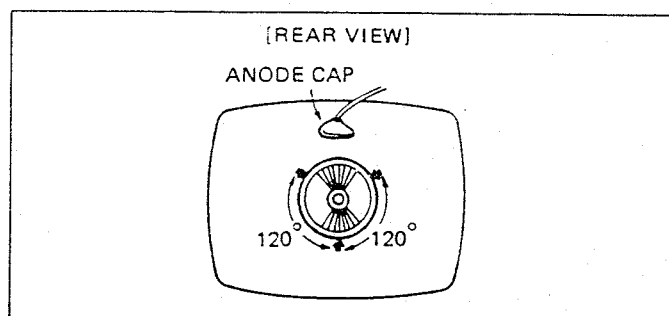

Fig. 12
9. Insert three wedges to the position as shown in Fig. 12 to obtain the best circumference convergence.